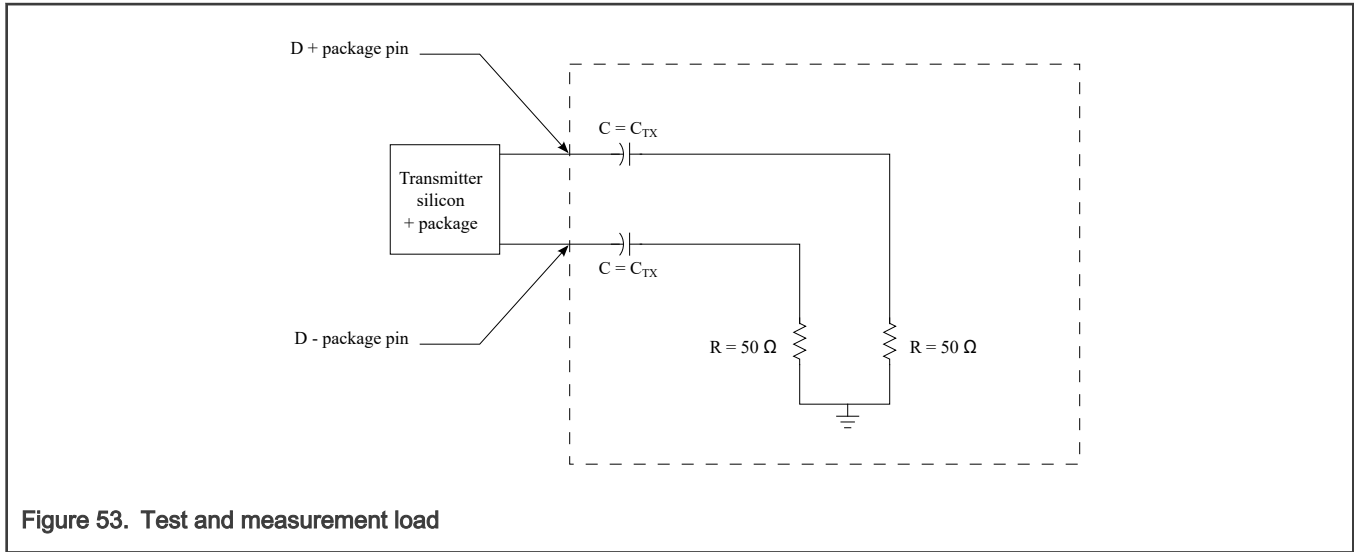

Figure 53. Test and measurement load
5. See Figure 53.
<p>1. Each UI is 200 ps \pm 300 ppm. UI does not account for spread-spectrum clock dictated variations.</p> <p>2. The maximum transmitter jitter can be derived as $T_{TX-MAX-JITTER} = 1 - T_{TX-EYE} = 0.25$ UI. Does not include spread-spectrum or REFCLK jitter. Includes devices random jitter at 10^{-12}.</p> <p>3. Specified at the measurement point into a timing and voltage test load and measured over any 250 consecutive transmitter Uis.</p> <p>4. A $T_{TX-EYE} - 0.75$ UI provides for a a total sum of deterministic and random jitter budget of $T_{TX-JITTER-MAX} = 0.25$ UI for the transmitter collected over any 250 consecutive transmitter Uis. The $T_{TX-EYE-MEDIAN-to-MAX-JITTER}$ median is less than half of the total transmitter budget collected over any 250 consecutive transmitter UIs. It must be noted that the median is not the same as the mean. The jitter median describes the point in time where the number of jitter points on either side is approximately equal as opposed to the averaged time value.</p> <p>5. See Figure 53.</p> <p>6. Reference input clock RMS jitter (< 1.5 MHz) at pin < 1 ps.</p>